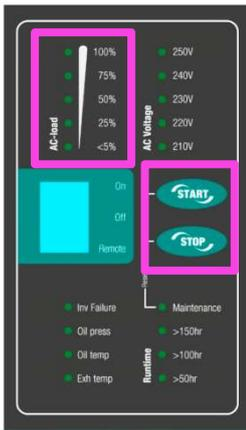

Figure 7: WP-PMG local panel
- 1 Push the START button on the WP-PMG local panel (Figure 7) and hold for two seconds to initiate the full automatic starting procedure. As a result, the electric system is activated.
Make sure that continuous load does not exceed 70% of maximum load (also refer to “CHECKS DURING LONGER OPERATION”). This is indicated on the top left part of the PMG local panel (Figure 7).
- 2 Press the PMG STOP button (Figure 7) and hold for 2 seconds.